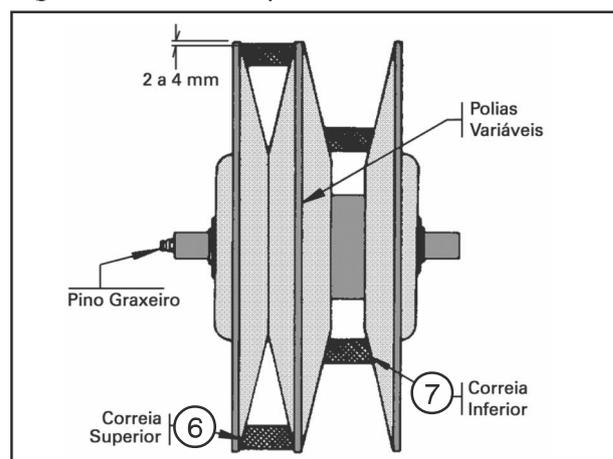

Fig. 1B - Minimum speed
- Put the variable drive in the minimum speed position. - Fig. 1B